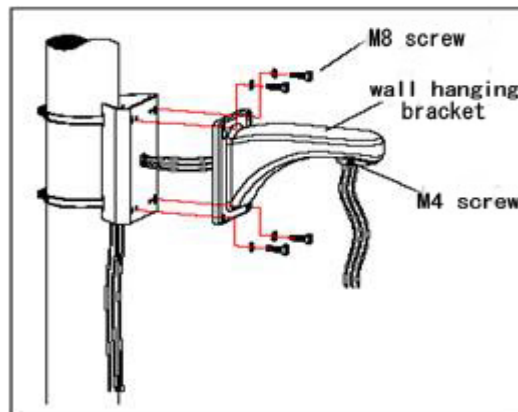

Fig 10
b. As shown in Fig 10, fix the wall hanging bracket with all cables through it on the pole mounted attachment.